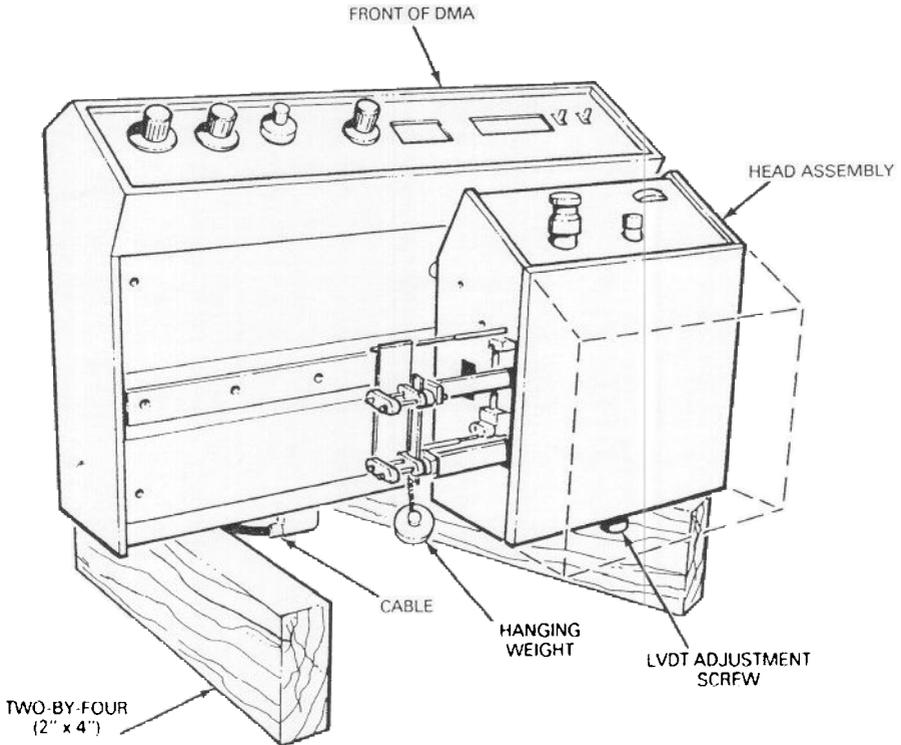

Figure 5.6
- Tip the DMA onto its back panel and raise it on four-inch supports (e.g., two-by-fours) to allow for clearance of the connectors and cables (see Figure 5.6).